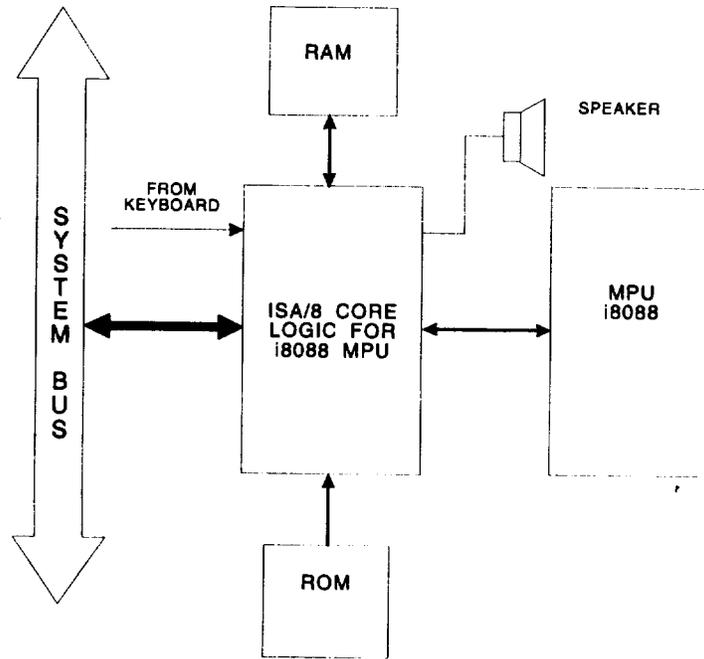

Figure 1-4. 1A2A3 Processor CCA Functional Block Diagram.
- c. **1A2A3 Microprocessor CCA.** This CCA (fig. 1-4) is the main controlling element of the TS-4320 mainframe. It is based on the Intel 8088 MPU and uses a VLSI device to provide peripheral support compatible with the IBM PC/XT architecture.